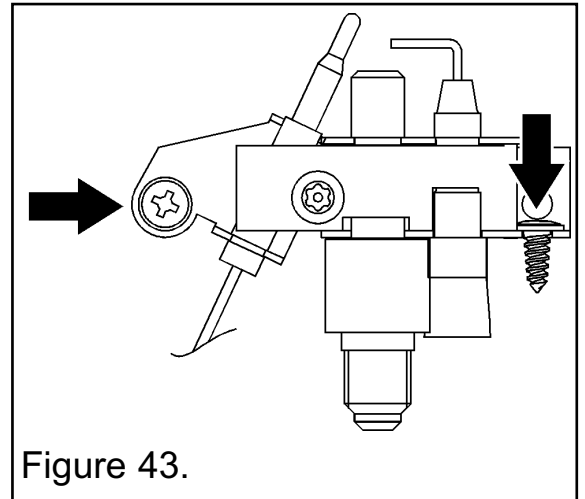

Figure 43.
5. Remove the two screws securing the pilot unit (See figure 43).